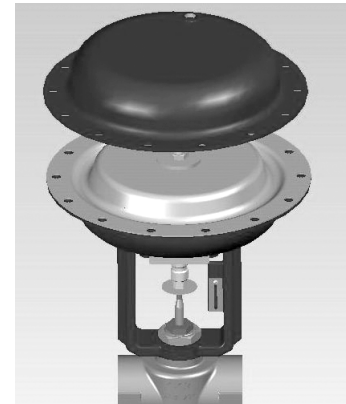

Figure 15
3. Remove the diaphragm case screws and upper diaphragm case (Figure 15).